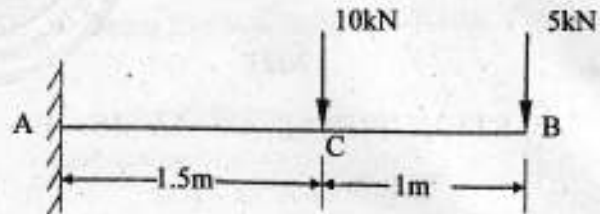

Fig. 2
- (c) Determine the slope and deflection at the free end of the cantilever beam as shown in figure 2 by moment area method. 8